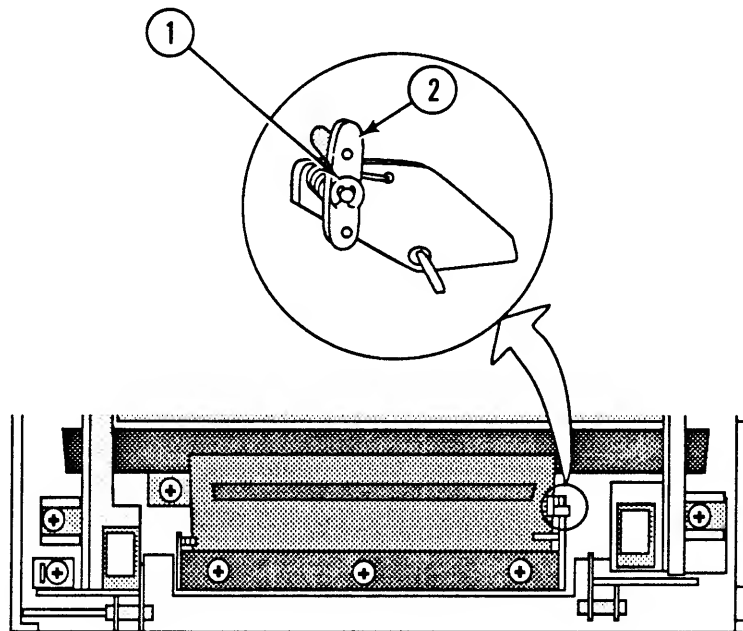

FIGURE 72
2. Using the screwdriver, remove the C-ring (Figure 72, #1) that secures the shutter arm (Figure 72, #2) to the mount.
1. Place the torsion spring and shutter arm in position on the mount. See Figure 72 for correct placement of the spring.